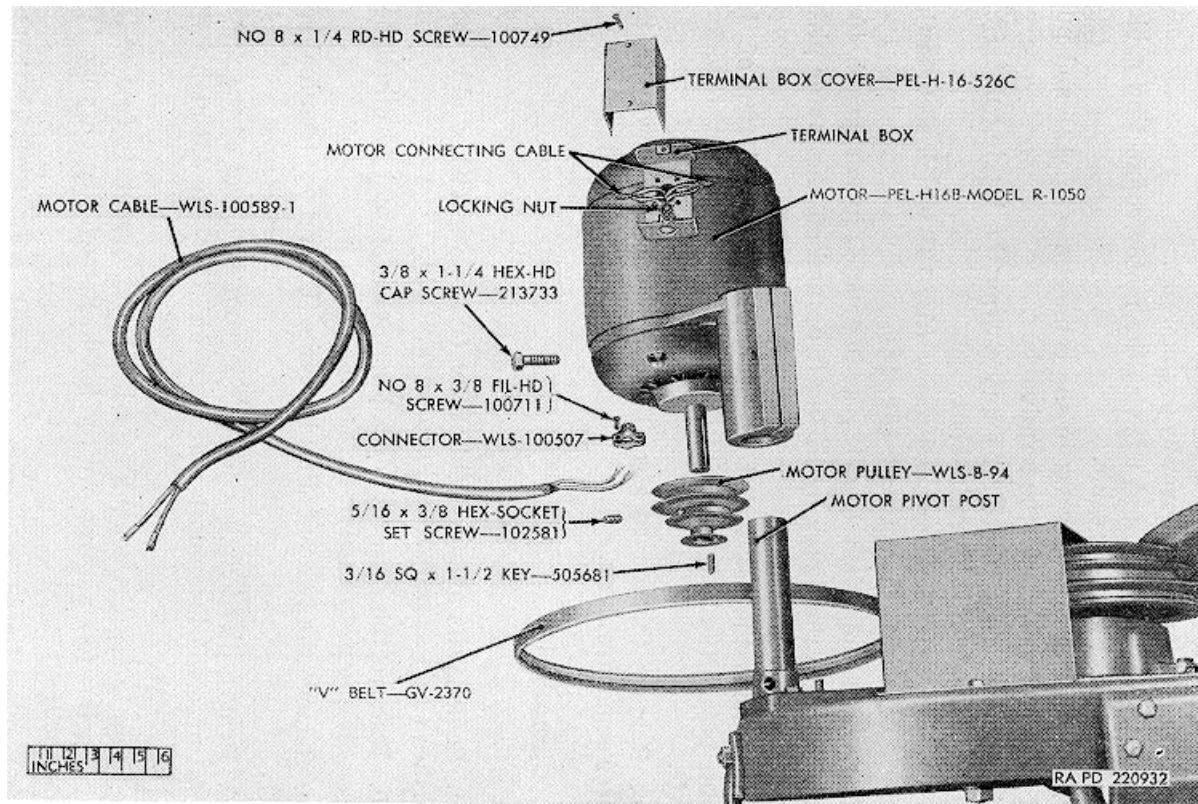

Figure 12. Motor PEL-H16B-Model R-1050 removed from bandsaw.
The motor (fig. 12), which can be operated on either 110 or 220 volts, provides the power for the continuous cutting action of the bandsaw. It transmits the power through a V-belt (fig. 12).
- f. From the motor end of the bandsaw, pull the motor cable (fig. 12) until it is free of the bandsaw.
- g. Remove the two roundhead screws in the terminal box cover (fig. 12) and remove the cover by prying it up.
- h. Remove the tape and untwist the motor connecting cables (fig. 12) from the motor cable.
- i. Remove the two screws in the connector (fig. 12) and pull out the motor cable from the terminal box.
- j. Remove the connector by unscrewing the locking nut (fig. 12) from inside of the terminal box.
- k. Remove the hex-head cap screw (fig. 12) which secures the motor to the motor pivot post (fig. 12).
- l. Remove the V-belt (fig. 12) as instructed in paragraph 40d.
- m. Remove the motor by lifting it up and off the motor pivot post (fig. 12).
- n. Remove the hex-socket setscrew in the second step of the motor pulley (fig. 12) and slip the pulley off the motor armature shaft.
- o. Remove the square key (fig. 12) from the keyway in the motor armature shaft.